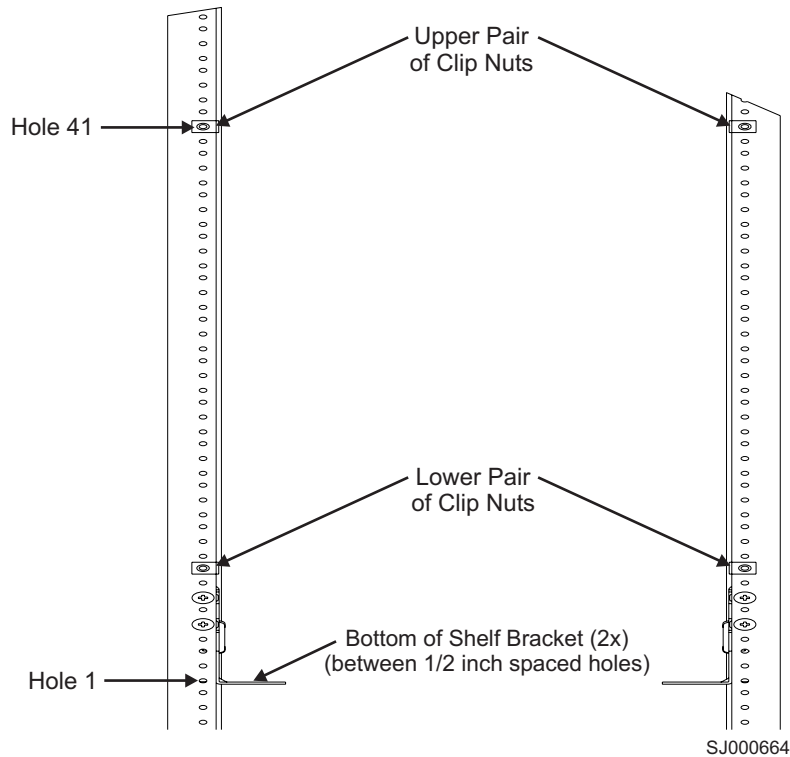

Figure 8. Placing the clip nuts on the rear rails (service aisle side)
4. Attach four 10–32 clip nuts to the two rails at the front of the cabinet (service aisle side). See Figure 8 on page 16.